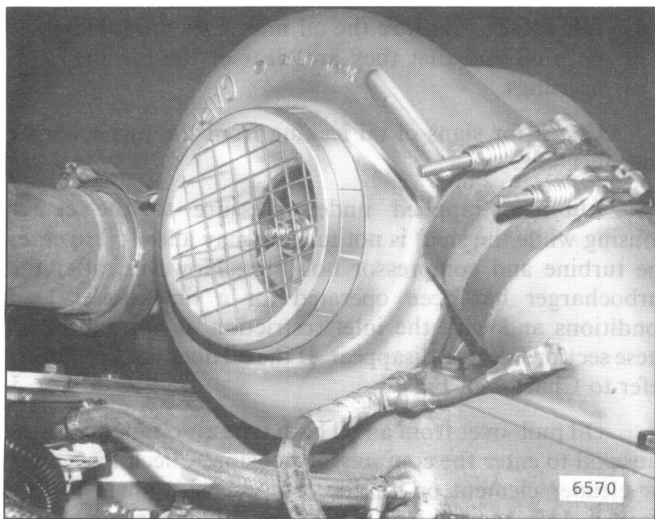
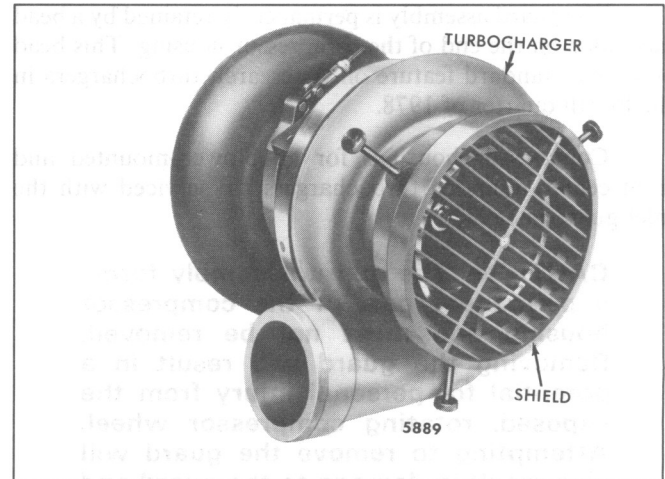

Fig. 5 – Turbo Compressor Inlet Guard Assembly
Fig. 5A – Inlet Shield (J 26554-A)
Effective February of 1988, a new guard assembly is installed over the compressor inlets of all blower-mounted and front center-mounted Airesearch turbochargers. The new two-piece assembly (Fig. 5) is intended to protect the service technician from the exposed turbocharger compressor wheel when the engine is operated with the air inlet piping removed from the compressor housing. The guard assembly also prevents foreign objects from being ingested by the turbocharger and causing damage.
**CAUTION:** The guard assembly cannot be installed on certain turbochargers because they have smaller (5.58") compressor inlet diameters. To avoid the potential for personal injury, shield J 26554-A (Fig. 5A) should be installed whenever the air inlet piping is removed from these turbochargers.
**CAUTION:** To eliminate the possibility of personal injury when air inlet piping is removed, do not operate an engine with a blower-mounted or front center-mounted turbocharger unless the compressor inlet guard assembly (Fig. 5) or turbo inlet shield (Fig. 5A) is installed.